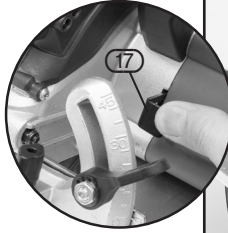

FIG.1
8.1 BLADE INSTALLATION AND REPLACEMENT – FIGS. 1 – 2
- Press and hold the spindle lock button (17). The spindle may rotate slightly before the spindle lock fully engages.
- Loosen the saw blade locking hex. bolt (3) anti-clockwise.
- Remove the hex. bolt (3) and the saw blade locking flange (4). If the rear flange is removed for cleaning, ensure it is replaced in its correct orientation.
- Slide the lower blade guard (5) back using tab (2) and hold.